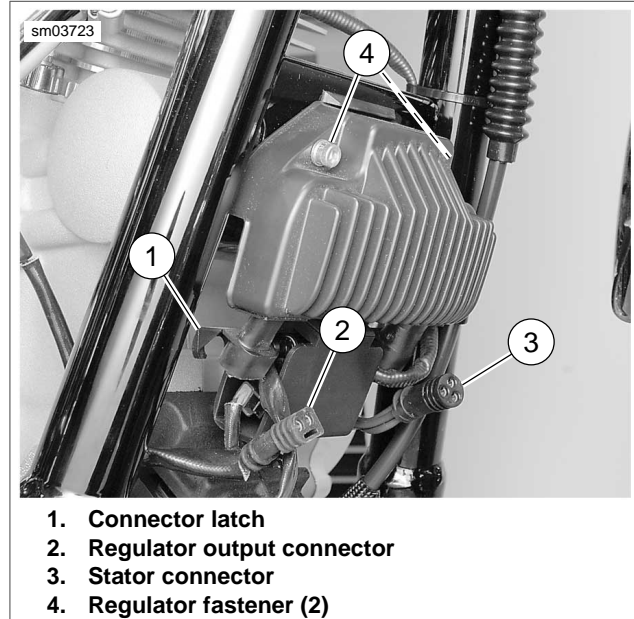

Figure 8-8. Voltage Regulator
2. See Figure 8-8. Release latches (1) from each connector.
3. Disconnect stator connector (3) and regulator output connector (2).
4. Remove voltage regulator fasteners (4).
1. See Figure 8-8. Install voltage regulator into position and install voltage regulator fasteners (4). Tighten fasteners to 60-80 **in-lbs** (6.8-9.0 Nm).
2. Connect voltage regulator output connector (2).
3. Connect stator connector (3).
4. Secure latches (1) on both connectors.